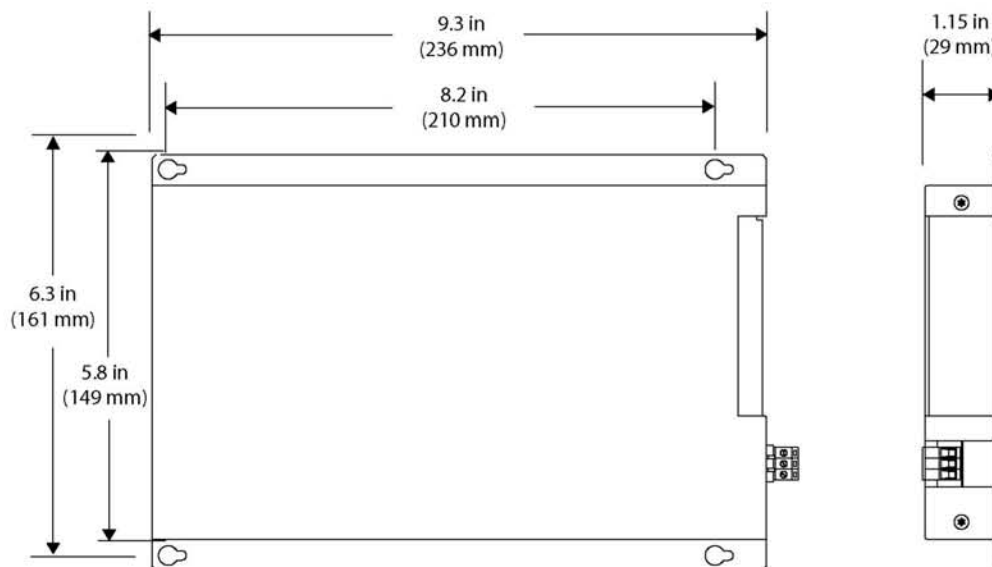

Figure 3. 501R Rack Card Enclosure Mounting Data
- 3) Determine where the module will be installed, and ensure that there is adequate space for making the various cable connections and for reading the diagnostic LEDs. See Figure 3.